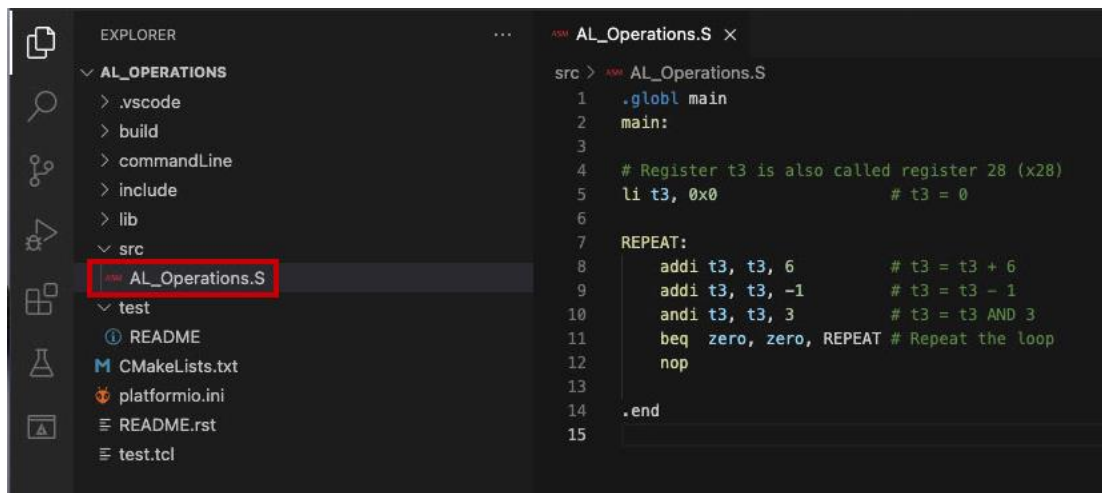

Figure 34. View assembly file AL_Operations.S
2. Open the assembly program, *AL_Operations.S*, by clicking on the Explorer icon in the left menu ribbon , expanding *src* under *AL_OPERATIONS* in the left sidebar and clicking on *AL_Operations.S* (see Figure 34).